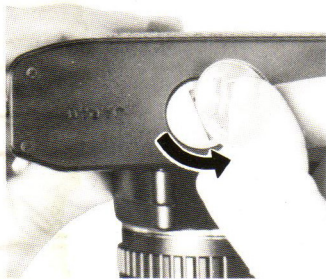

Fig. 1
1. Remove Battery Compartment Cover (29) by unscrewing it counter-clockwise with a coin (Fig. 1).